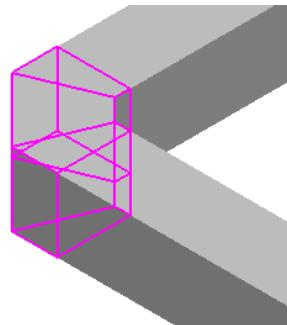

Figure 8: Selected Turn Feature
24. Select the turn feature, as shown in Figure 8, to open the **Edit** ribbon.